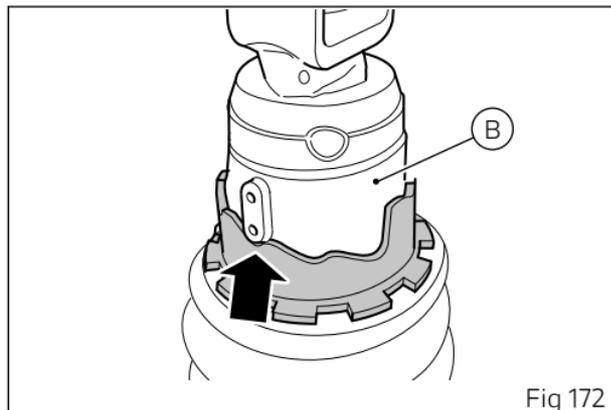

Fig 172
The chain tension value is valid if the rear shock absorber (B) is in default condition, that is 2 notches from the fully compressed condition, as shown (Fig 172).